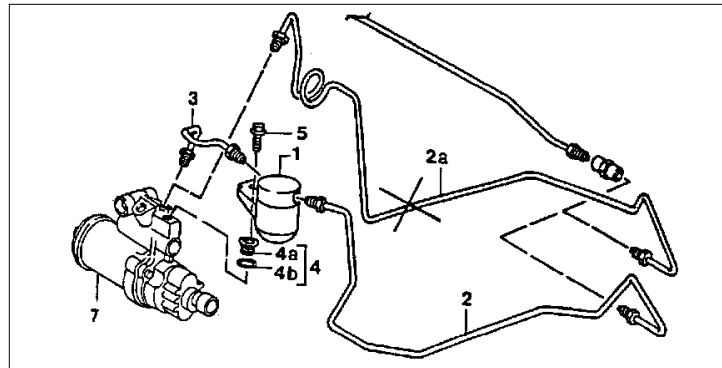

Figure 4
- Remove the blind plug (4a in Figure 4) from the pump with a T45 Torx bit and discard.
- Install the repair set consisting of an inside threaded plug and O-ring (bracket 4 in Figure 4) into the pump. Be certain to lubricate the new O-ring with DOT 4 brake fluid prior to installation. Torque the threaded plug into the pump with an 8 mm allen wrench to 20 Nm + 6 Nm (14.4 ftlbs + 4.3 ftlbs).
- Loosen the long pressure line (2a in Figure 4) and bend upwards. Catch the escaping brake fluid and cap the line.
- Unclip the existing long hydraulic line (2a in Figure 4) from the body wall and remove. Catch any escaping brake fluid.